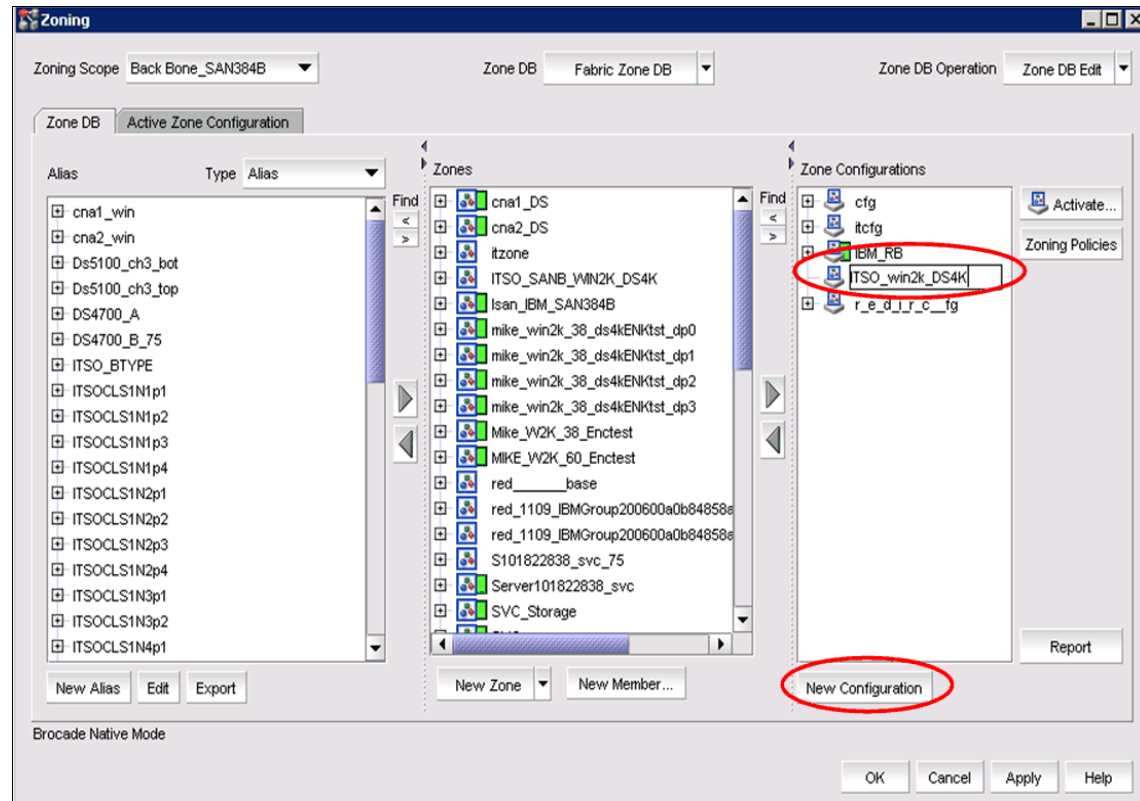

Figure 12-18 Name the new config
2. Click **New Config** and name the new config in the Zone Configs section (see Figure 12-18).